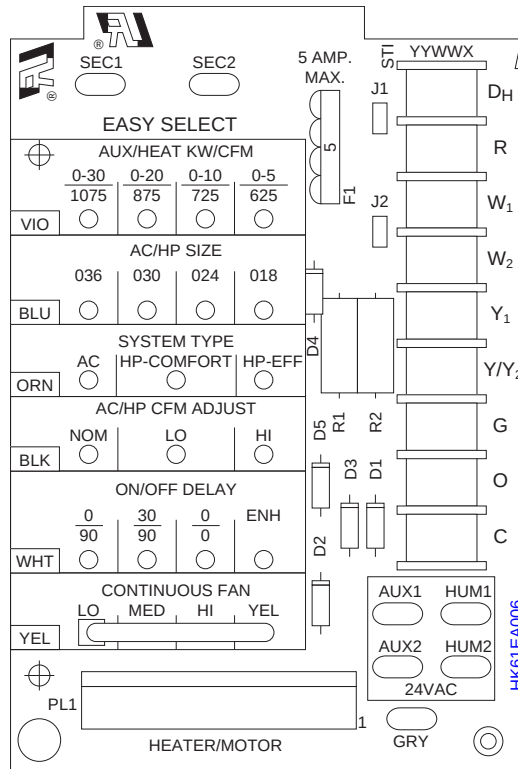

Fig. 7 - Easy Select Board
NOTE: Layout of actual PCB is depicted in Fig.7.
The Easy Select taps are used by installer to configure system. The ECM2.3/5.0 uses selected taps to modify its operation to a pre-programmed table of airflows. Airflows are based on system size and mode of operation and those airflows are modified in response to other inputs such as the need for de-humidification. (See Fig. 7.)
The installer must select the auxiliary heat airflow approved for application with kW size heater installed. Each select pin is marked with a range of heaters for which airflow (also marked) is approved. For increased comfort select the narrowest kW range matching the heater size, for example, 0–10 for a 10-kW heater. This airflow must be greater than the minimum CFM for electric heater application with the size system installed for safe and continuous operation. Note that airflow marked is the airflow which will be supplied in emergency heat mode and heating mode on air conditioners when electric heat is primary heating source. To ensure safe heater operation in heat-pump heating mode, when electric heaters are energized, the ECM2.3/5.0 will run the higher of heat pump airflow and electric heater airflow. The factory default selection is largest heater range approved. (See Fig. 7.)
The factory default setting for air conditioner or heat pump size is largest unit meant for application with model of fan coil purchased. The installer needs to select air conditioner or heat pump size to ensure that airflow delivered falls within proper range for size of unit installed in all operational modes. (See Fig. 7.)
The factory setting is AC. (See Fig. 7.)
Select low, nominal, or high airflow. The factory selection is NOM. The adjust selections HI/LO will regulate airflow supplied for cooling and heat pump heating modes only, +15 percent and -10 percent respectively. The adjust selection options are provided to adjust airflow supplied to meet individual installation needs for such things as noise, comfort, and humidity removal. (See Fig. 7.)
Select desired time delay profile. Four motor-operation delay profiles are provided to customize and enhance system operation. (See Fig. 7.) The selection options are:
Select desired continuous-fan profile LO, MED, or HI. Airflow are provided to customize and enhance the continuous fan functions. (See Fig. 7.) The possible selections are:
1. Check transformer and thermostat wiring. (See Fig. 7.) Be sure transformer is not shorting out because thermostat wires are miswired.
2. Check wiring of relays. (See Fig. 7.) Be sure low-voltage and high-voltage wiring are connected to proper sequencers.